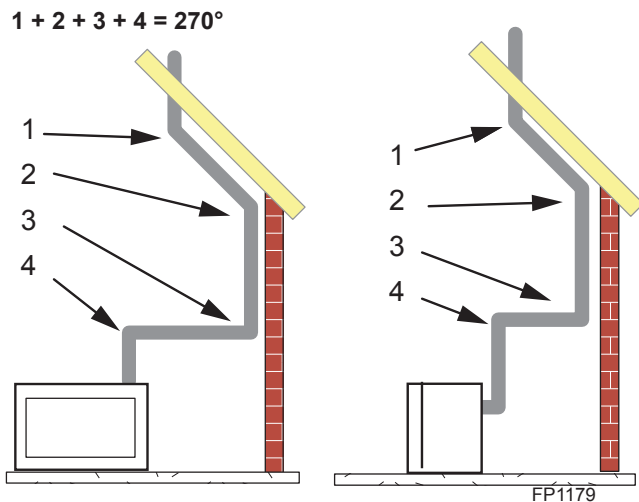

Figure 36 - Maximum Elbow Usage
- The maximum angular variation allowed in the system is 270°. *Figure 36*